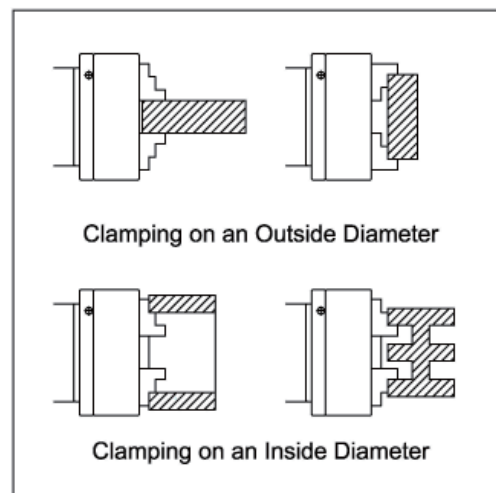

Figure 33. Examples of workpiece mounted in the 3-jaw chuck.
3. Use the chuck key to move the jaws and mount the workpiece to the chuck, similar to one of the methods shown in Figure 33. Make sure the workpiece is mounted firmly on the chuck.